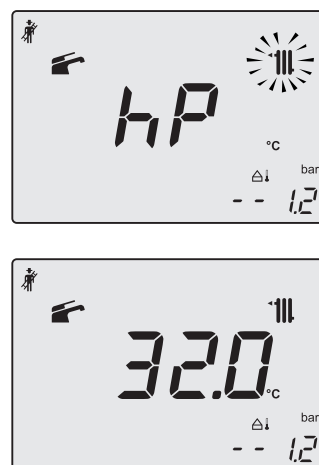

Figure 11.8
- 19 Press key G to vary the output in chimney sweep mode: when the display shows the letters **hP** that alternate with the heating water temperature value (e.g. 32), the "chimney sweep function" is at minimum power during heating (Figure 11.8);